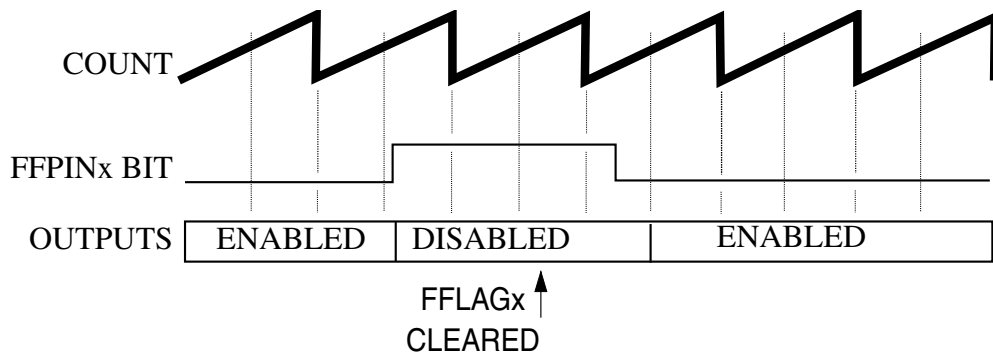

Figure 120. Manual fault clearing (FCTRL[FSAFEx] = 1, FSTS[FHALFx] = 1)
- The filter detects a logic zero on the FAULT_x pin at the start of the next PWM full or half cycle boundary, as shown in Figure 120. If FSTS[FFULL_x] is set, then the disabled PWM pins are enabled at the start of a full cycle. If FSTS[FHALF_x] is set, then the disabled PWM pins are enabled at the start of a half cycle.